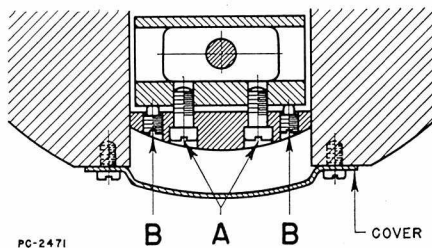

Figure 41
3. Remove the cover from the bottom of the swivel block (Fig. 41).